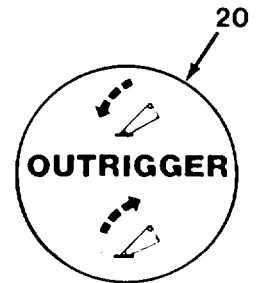

Figure 4-5. *Outrigger Lever*
20. **Outrigger Control** Lever raises or lowers outrigger beams. Each beam operates independently with control switches: pull to raise; push to lower (Figure 4-5).